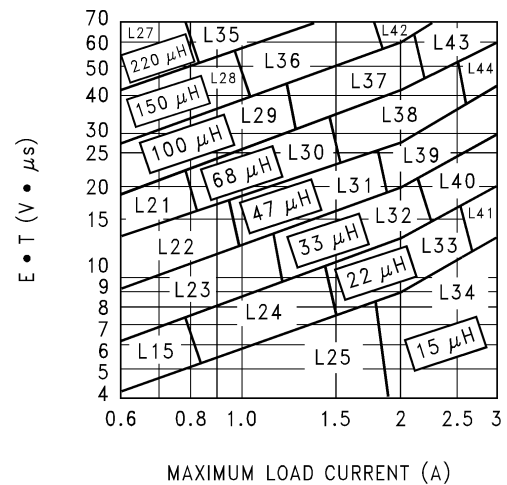

Figure 24. LM2596-ADJ
2. Inductor Selection (L1) A. Calculate the inductor Volt • microsecond constant $E \cdot T$ ($V \cdot \mu s$), from the following formula: $E \cdot T = (V_{IN} - V_{OUT} - V_{SAT}) \cdot \frac{V_{OUT} + V_D}{V_{IN} - V_{SAT} + V_D} \cdot \frac{1000}{150 \text{ kHz}} (V \cdot \mu s)$ where V_{SAT} = internal switch saturation voltage = 1.16V V_D = diode forward voltage drop = 0.5V (4) B. Use the $E \cdot T$ value from the previous formula and match it with the $E \cdot T$ number on the vertical axis of the Inductor Value Selection Guide shown in Figure 24. C. on the horizontal axis, select the maximum load current. D. Identify the inductance region intersected by the $E \cdot T$ value and the Maximum Load Current value. Each region is identified by an inductance value and an inductor code (LXX). E. Select an appropriate inductor from the four manufacturer's part numbers listed in Table 3.	2. Inductor Selection (L1) A. Calculate the inductor Volt • microsecond constant ($E \cdot T$), $E \cdot T = (28 - 20 - 1.16) \cdot \frac{20 + 0.5}{28 - 1.16 + 0.5} \cdot \frac{1000}{150} (V \cdot \mu s)$ $E \cdot T = (6.84) \cdot \frac{20.5}{27.34} \cdot 6.67 (V \cdot \mu s) = 34.2 (V \cdot \mu s)$ (5) B. $E \cdot T = 34.2 (V \cdot \mu s)$ C. $I_{LOAD(max)} = 3A$ D. From the inductor value selection guide shown in Figure 24, the inductance region intersected by the 34 ($V \cdot \mu s$) horizontal line and the 3A vertical line is 47 μH, and the inductor code is L39. E. From the table in Table 3, locate line L39, and select an inductor part number from the list of manufacturers part numbers.